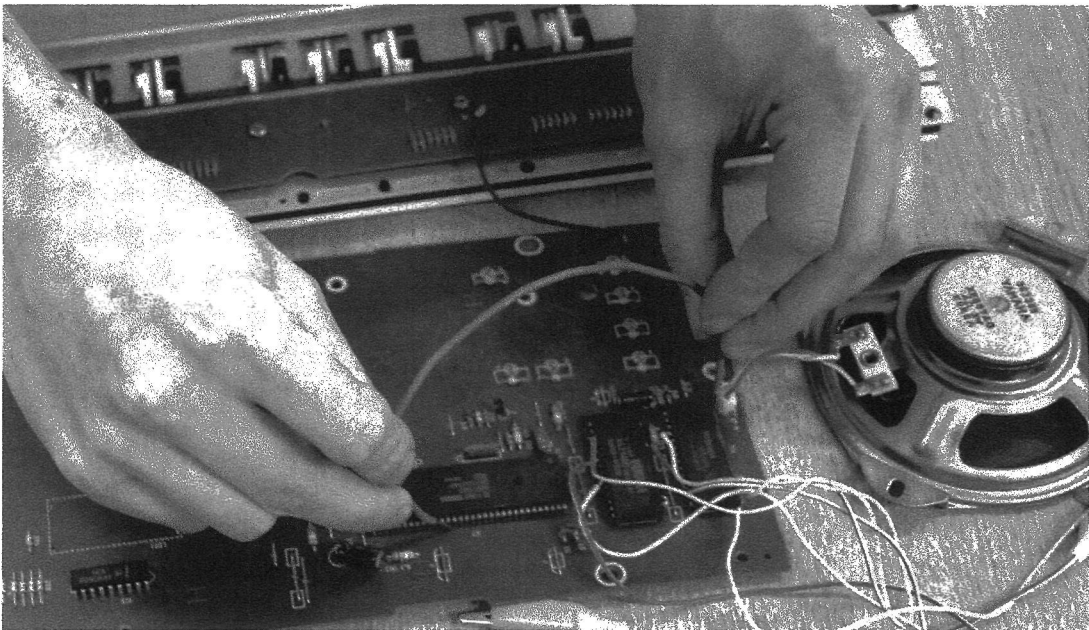
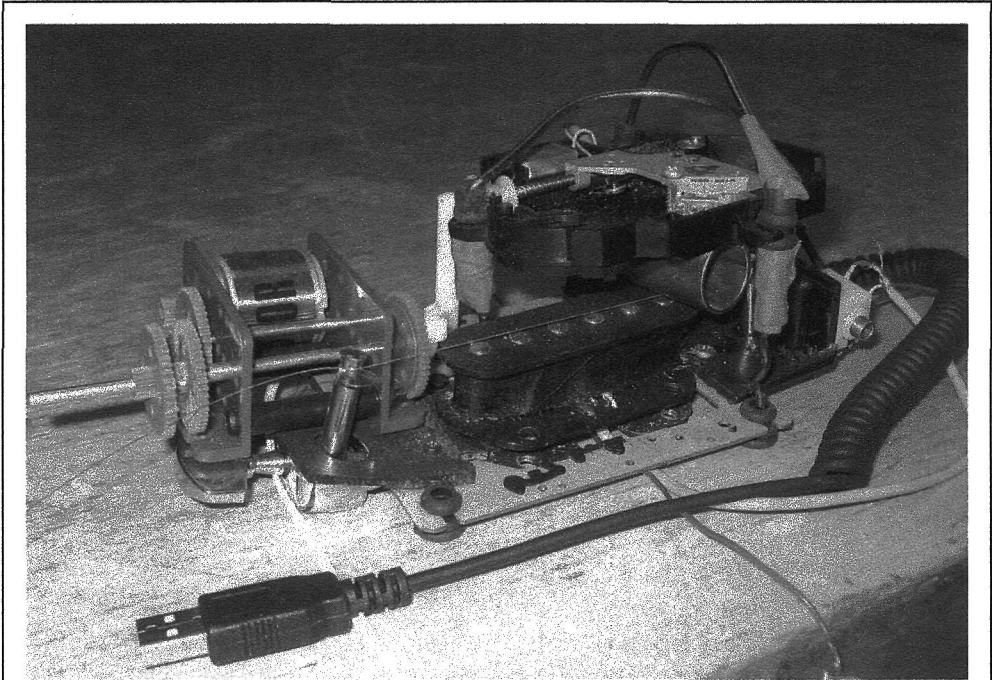

Figure 15.11 Phil Archer bridging the circuit board.
Figure 15.13 “CD Player Slide Guitar,” Phil Archer.
Enough of clocks! There's more to life than pitch change. Sometimes a toy can be induced to make curious sounds if you make new connections between various locations on the circuit board. Take a resistor of about 100 Ohms and bend it into the shape of a croquet wicket. While listening to the toy, press one end of the resistor to a solder point on the solder side of the board; then touch the other end to various other points—if the circuit board is large you may need to use a clip lead to reach all over (see Figure 15.11 and audio track 13). You may (or may not) get some interesting-sounding circuit malfunctions. Disconnect *immediately* any connection that seems to cause heat, smoke, or flame.
Phil Archer (UK) and John Bowers (UK) are representative of the emerging generation of hackers, who effortlessly combine bending with Tudor-era contact mike technology and sophisticated computer programming. Archer did the “classic” bend to his Yamaha PSS-380 keyboard: exposing the circuit-board, placing the inverted instrument on the performer’s lap, and making arbitrary connections between components on the board with a stripped piece of wire (see Figure 15.11 and audio track 13). “These connections,” he writes, “induce tones, bursts of noise and corrupted ‘auto-accompaniment’ sequences from the device which are unpredictable in their details but generally ‘steerable’ overall with practice. The precision and control afforded by the standard keyboard interface is eschewed in favour of direct contact with the circuit, and the performer is continually forced to rethink and re-evaluate their relationship with the instrument in light of the sonic results.” Most of his other instruments have a Frankenstein quality: a midget Hawaiian guitar whose single string is played by the sled mechanism from a CD player (see Figure 15.13); a set of small percussion instruments whacked and scraped by motors from a dot matrix printer; a music box mechanism activating “Bent” electronic keyboards and a keyboard played by dripping water (see Archer’s video on the DVD).